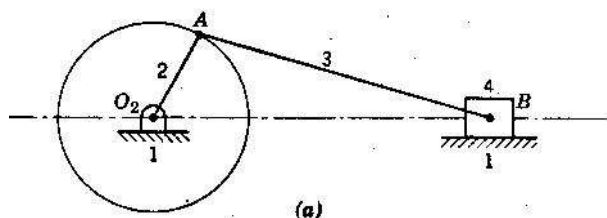
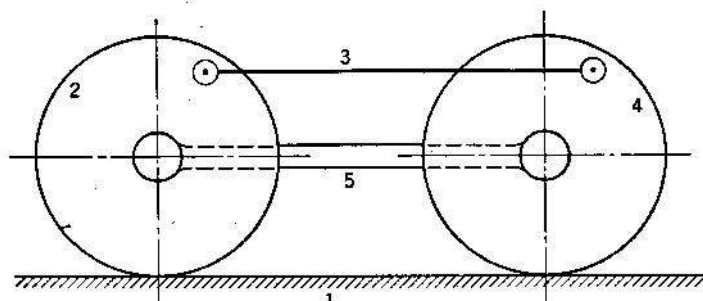

Fig.1.1
Fig.1.2
**Translation:** A body has translation if it moves so that all straight lines in the body move to parallel positions. Rectilinear translation is a motion wherein all points of the body move in straight lie paths. Eg. The slider in slider crank mechanism has rectilinear translation. (link 4 in fig.1.1)
Translation, in which points in a body move along curved paths, is called curvilinear translation. The tie rod connecting the wheels of a steam locomotive has curvilinear translation. (link 3 in fig.1.2)
**Rotation:** In rotation, all points in a body remain at fixed distances from a line which is perpendicular to the plane of rotation. This line is the axis of rotation and points in the body describe circular paths about it. (Eg. link 2 in Fig.1.1 and links 2 & 4 in Fig.1.2)
**Translation and rotation:** It is the combination of both translation and rotation which is exhibited by many machine parts. (Eg. link 3 in Fig.1.1)